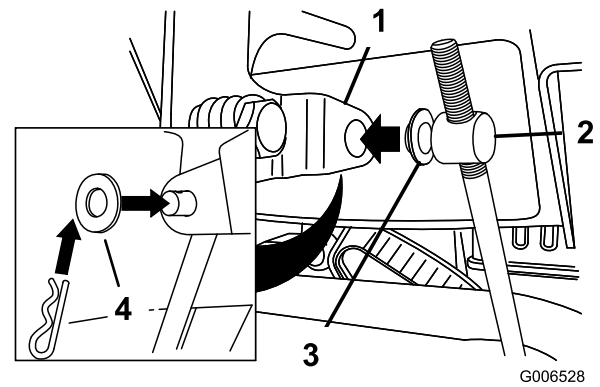

Figure 6
3. Remove the hairpin cotter and the outer washer from the trunnion on the upper end of the speed control rod (Figure 6).
**Note:** To make installation easier, leave the inner washer on the trunnion (Figure 6).
6. Lift up on the speed control rod and insert the trunnion into the hole in the speed selector lever (Figure 6).
- B. Disconnect the trunnion from the speed selector lever (Figure 6).
- C. Turn the trunnion downward (clockwise) on the speed control rod (Figure 6).
- D. Connect the trunnion from the speed selector lever (Figure 6).
- C. Turn the trunnion upward (counterclockwise) on the speed control rod (Figure 6).